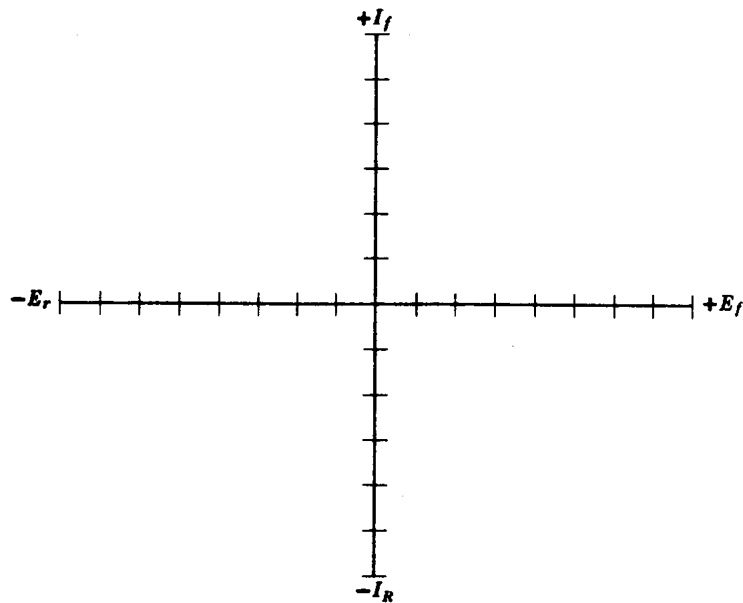

Fig. 3. Forward and reverse volt-ampere characteristics.
4. Plot the forward and reverse bias curves for your zener diode. Use Fig. 3 with appropriate values.